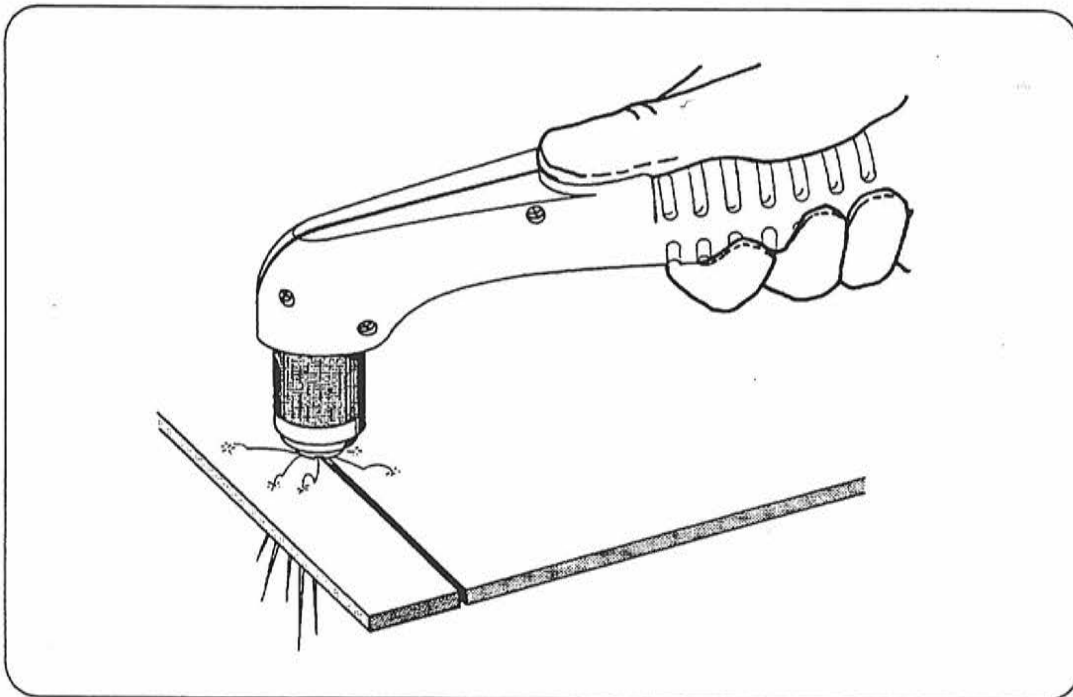

Figure 4-7 Dragging the Torch
- Hold the torch nozzle at a vertical position and watch the arc as it cuts along the line (Fig. 4-7). By lightly dragging the nozzle on the workpiece, you can maintain a steady cut. For straight-line cuts, use any straight edge as a guide.